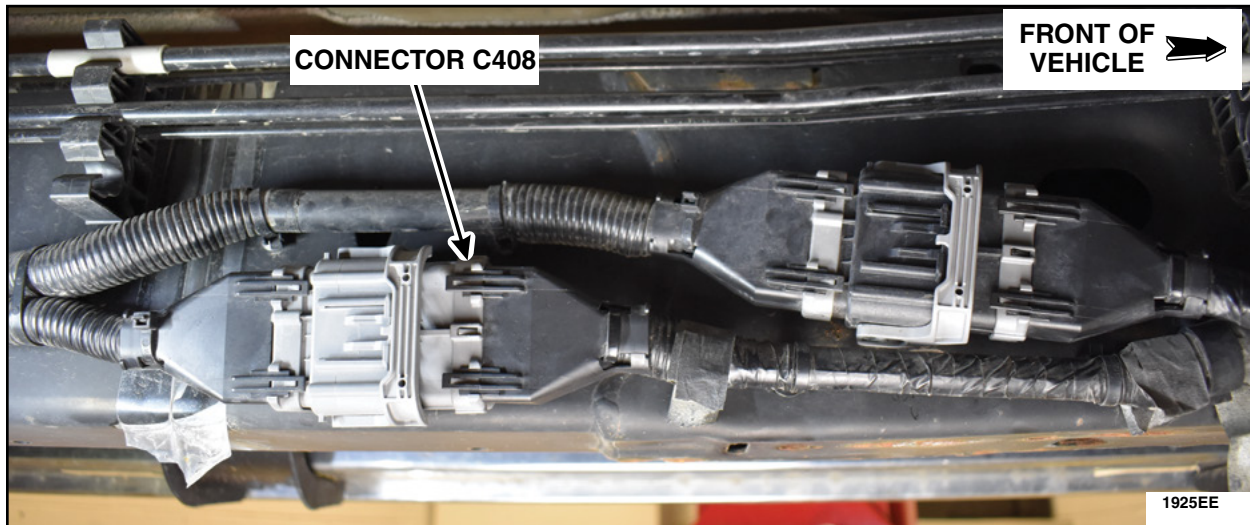

FIGURE 41
43. Locate and disconnect connector C408. See Figure 41.